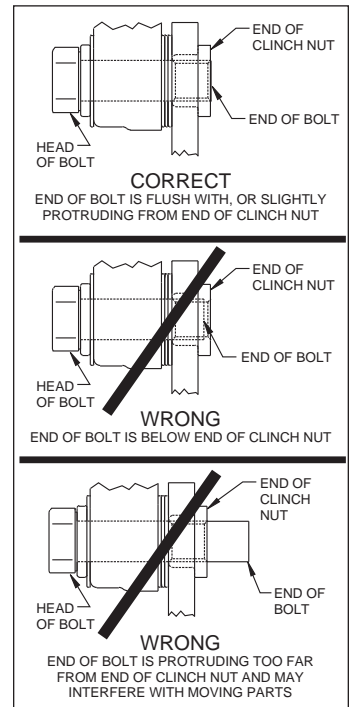

Figure 4. Clinch Nut Engagement Diagram
CAUTION: All mounting bolts must fully engage insert nuts, Figure 4. Be sure to check that all bolts are either flush or protruding through flanged side of insert nut after shimming. Rear hole refers to the part of the spindle that would be facing the back of the vehicle, front is facing the front of the vehicle.
- Adjust by adding or subtracting shims (2) between the bracket and the spindle. Always use the same amount of shims on each of the two mounting bolts.
- **NOTE:** *The end of each bolt must be flush with or slightly protruding from the head of the clinch nut, as shown in Figure 4.* If necessary place spare shims (2) between washer (19) and caliper mounting ear to achieve the proper clinch nut engagement. Once the caliper alignment and clinch nut engagement are correct, remove the ProSpindle supplied bolts one at a time, apply red *Loctite*® 271 to the threads and torque to 55 ft-lb. Then apply red *Loctite*® 271 to caliper mounting bolt threads (20) and torque to 40 ft-lb.
- Install the disc brake pads (21) into the caliper (18), with the friction material facing the rotor (8), and secure in place using cotter pin (22), Photo 10.